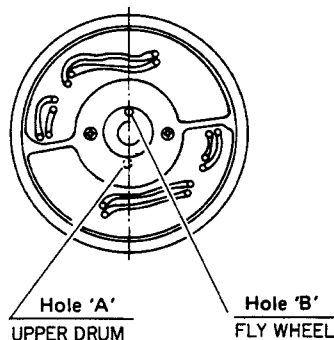

Fig. 2-6
**Note:** Observe position when installing the new upper drum. As indicated in Fig. 2-6, install with hole 'A' (2.7 mm) 180° opposite hole 'B' (2.0 mm) of the flywheel.